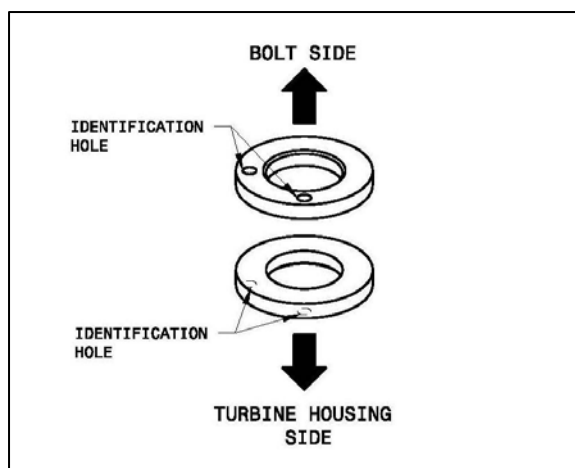

Fig. 38
**NOTE:** each bolt uses 2 washers. Place the washers back-to-back, with the identification holes on the outside facing *up* on the top washer and *down* on the bottom washer. See figure 38. Torque the bolts to 21-23 lb-ft (27-31 N-m) in an "X" pattern. Tighten the bolts another 60-70 degrees after reaching the torque spec, again using an "X" pattern (4 bolts, 14mm socket).